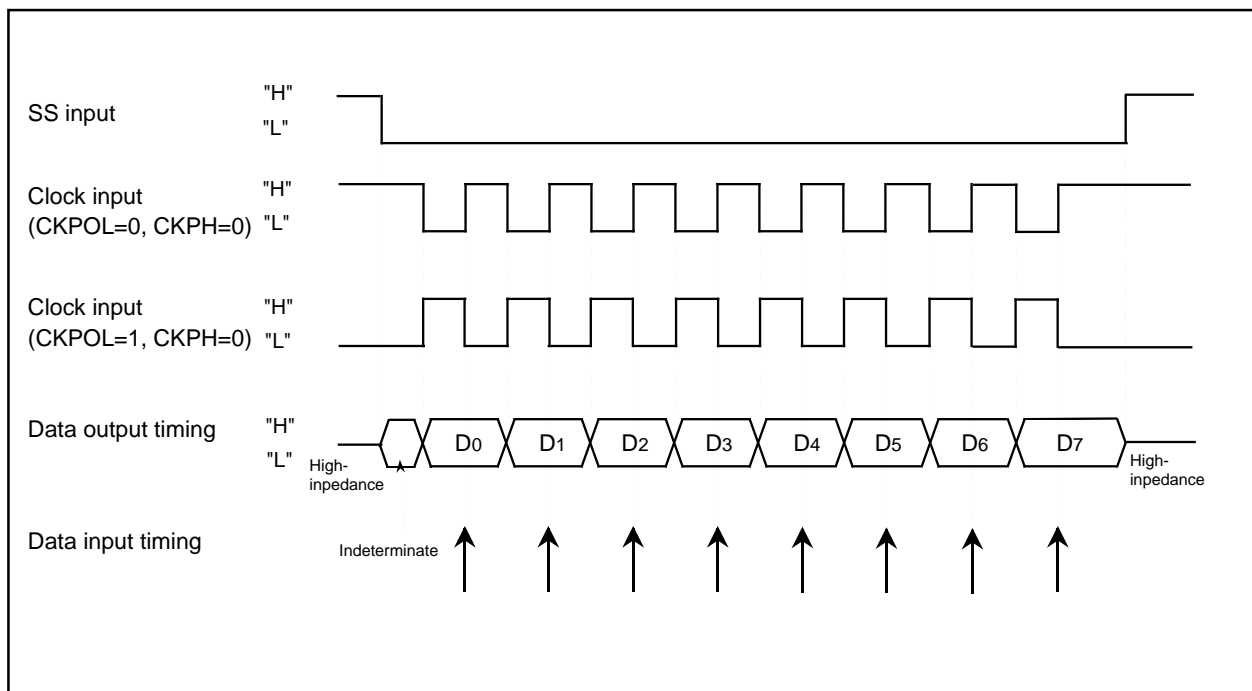

Figure 1.20.8. The transmission and reception timing (CKPH=0) in slave mode (external clock)
- With "0" for bit 1 (CKPH) of UARTi special mode register 3 (addresses 0325₁₆ and 02F5₁₆ [i = 3 or 4]), when an SSi input pin is H level, output data is high impedance. When an SSi input pin is L level, the serial transmission start condition is satisfied, though output is indeterminate. After that, serial transmission is synchronized with the clock. Figure 1.20.8 shows the timing.